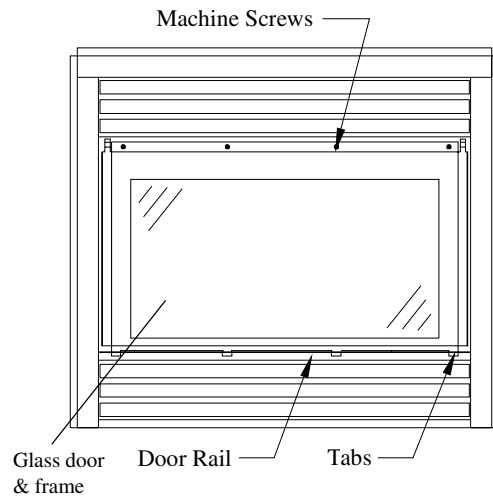

Figure 23b. Removing or installing the glass door.
To install/remove the glass door, simply attach/remove the ten (10) machine screws that hold door in place (See figure 23b). Ensure that a good seal is maintained when installing the door.